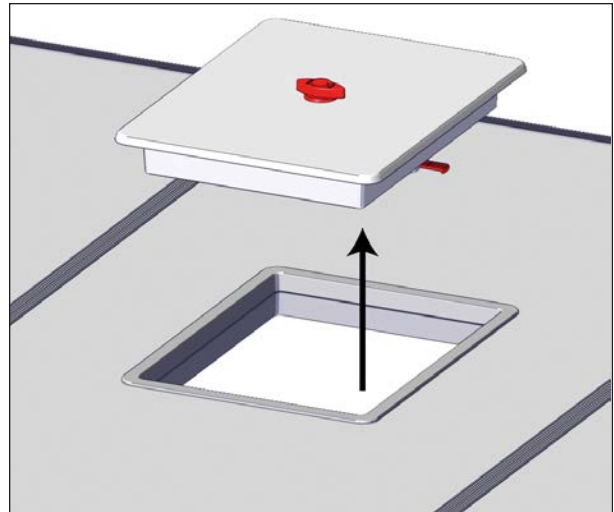

FIGURE 102: REMOVE HATCH
2. Push straight up on the escape hatch and move it to the side, see Figure 102.